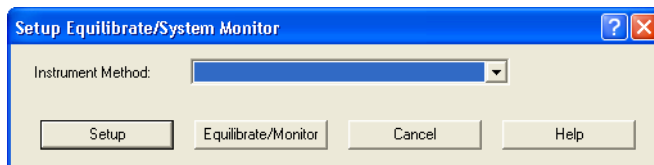

Figure 4-13 Setup Equilibrate/System Monitor Dialog Box
2. In the Acquisition bar, click  (equilibrate system/monitor baseline). The Setup Equilibrate/System Monitor dialog box appears (Figure 4-13).